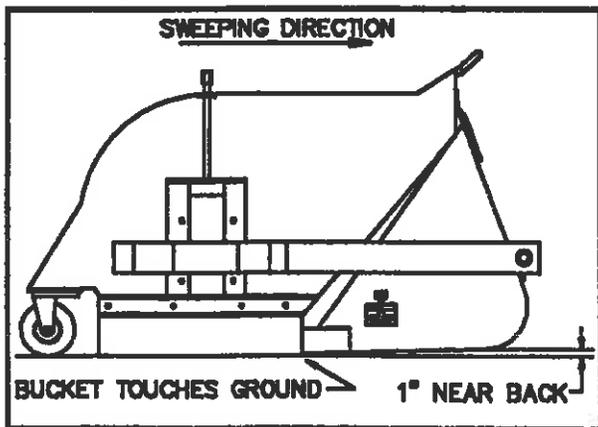

Figure 3
5. To sweep in rear direction, bucket should be tilted down with bucket cutting edge touching sweeping surface. Loader needs to be in a float position. (See figure 3)